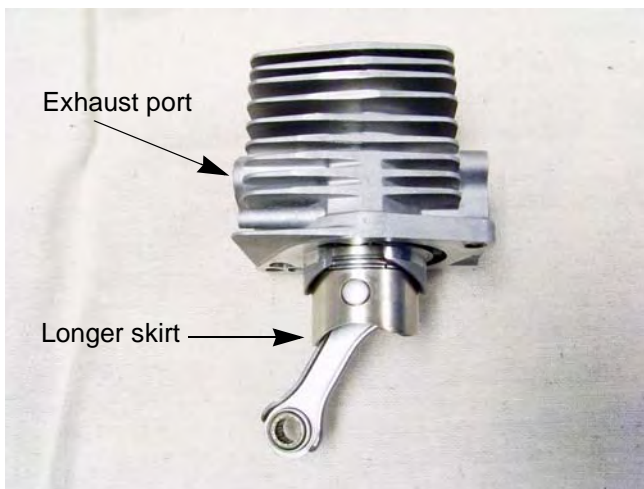

Figure 8.12
4. Compress the piston rings and slide the cylinder over the piston just enough to cover the piston rings. See Figure 8.12.